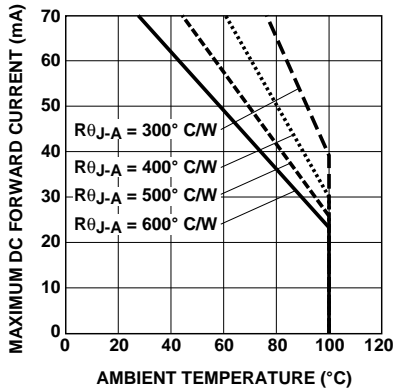

Figure 4a. HPWR-M300/HPWA-XX00 Maximum DC Forward Current vs. Ambient Temperature.
1. Derate linearly as shown in Figure 4a and 4b.